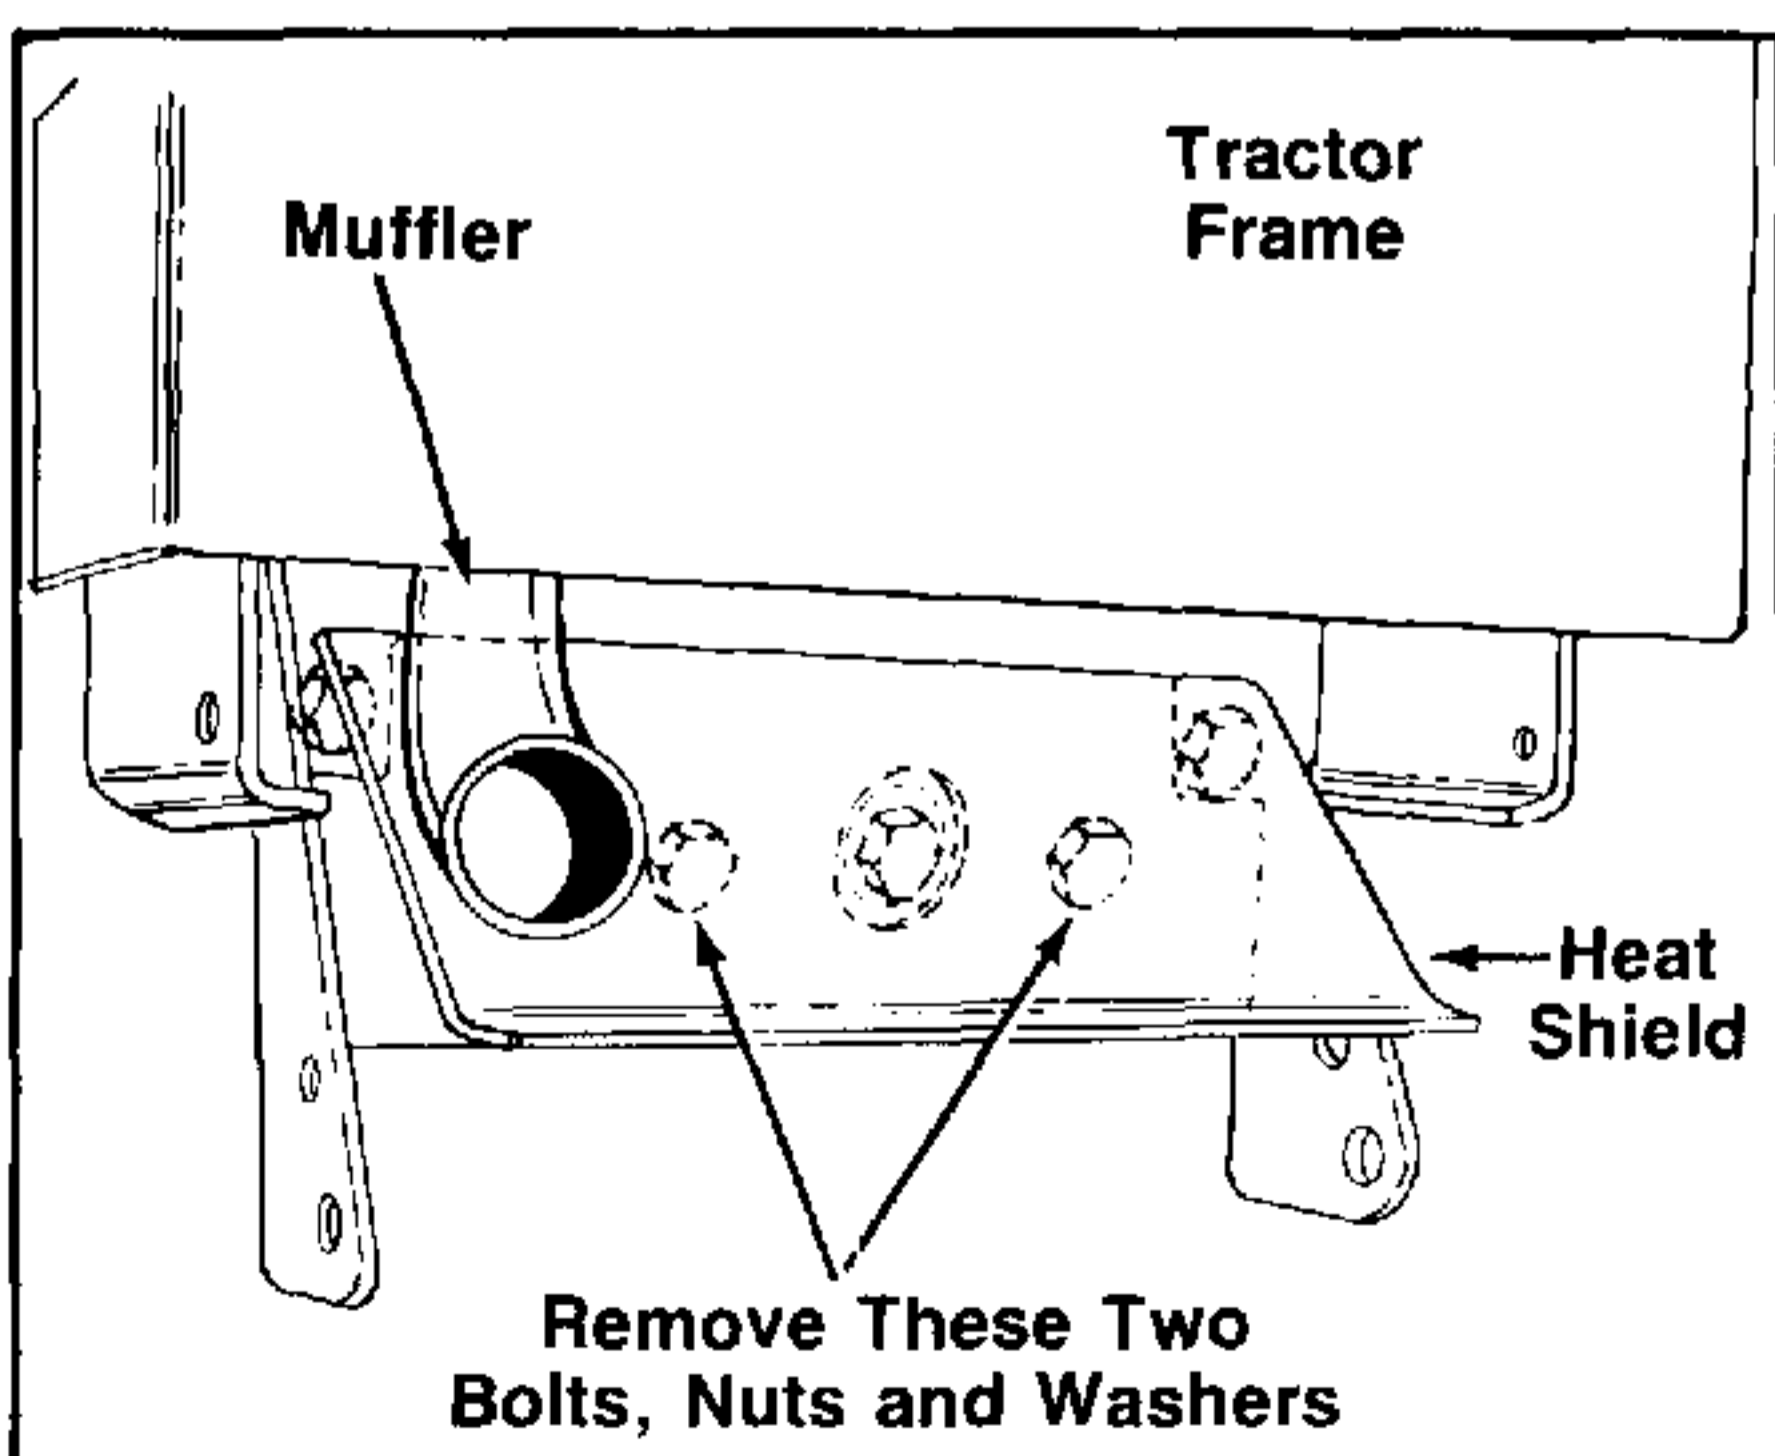

FIGURE 3.
2. Remove the heat shield on the tractor by removing two bolts, nuts and washers from heat shield and front of tractor frame as shown in figure 3.